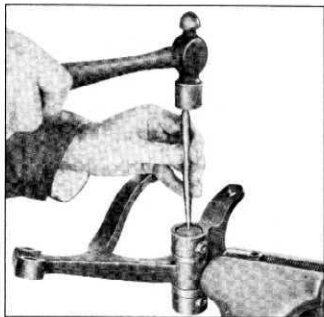

Fig. 7—Removing Pivot Shaft Plug
2. Remove pivot shaft plugs. This can be done with a sharp drift punch by driving through either plug and forcing the pivot shaft against the other plug to remove it (fig. 7). Shaft may then be removed and idler and third arm assembly and shim removed from bracket assembly.